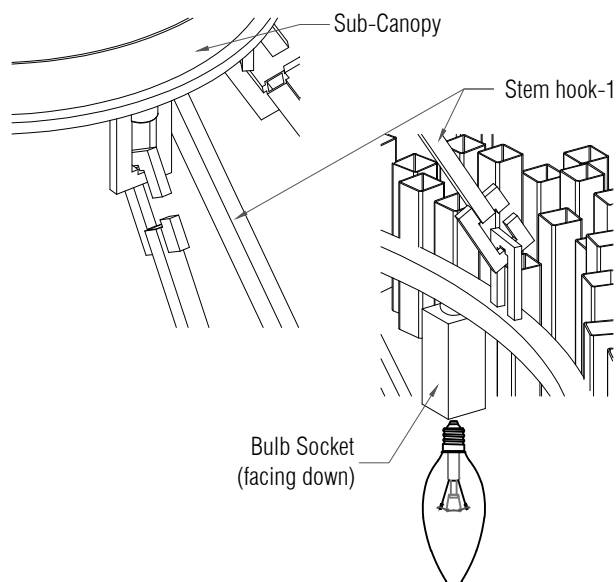

FIGURE 04
5. Attach 6-Stem hook-1(P) to the Sub-Canopy(L) then install the 1st tier frame, make sure sockets are facing down. (**see fig. 04**).